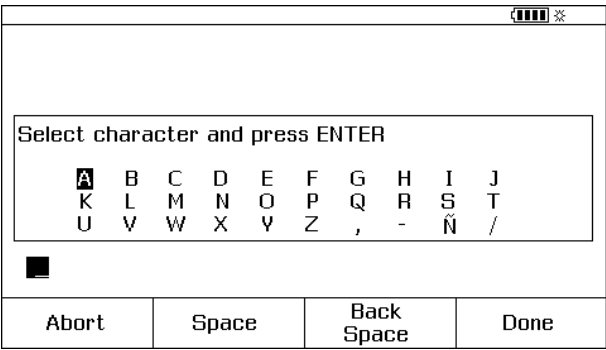

Figure 11. Personalize the Product
- 4. Push or the **Choices** softkey. The screen in Figure 11 is shown.